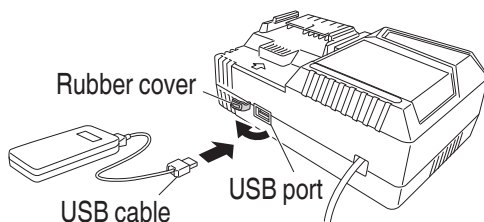

Fig. 18
- (2) Connect the USB cable. (**Fig. 18**)